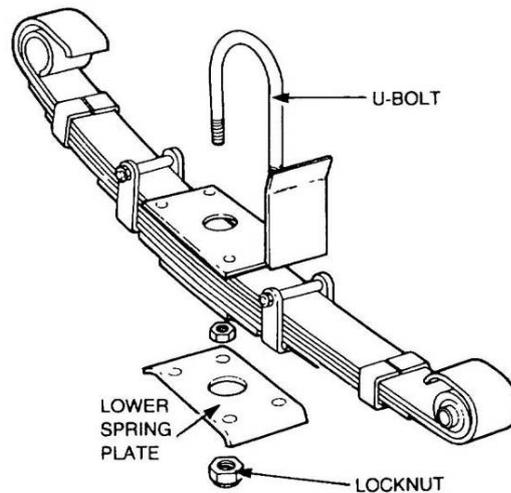

Figure 120 Removal of the U-Bolt and Retaining Plate
- d. To assist with removal of the spring, support the spring with a suitable trolley-jack. Remove the four locknuts from the U-bolts (Figure 120) and discard the locknuts.